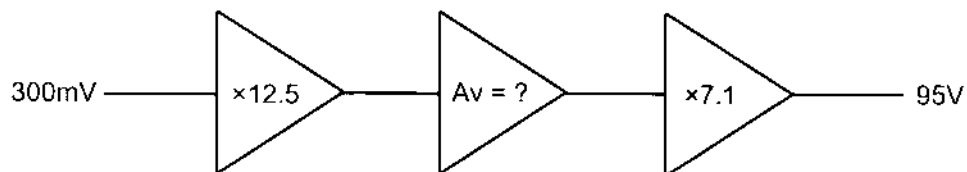

Figure 13
6. What's the gain of the second stage in Figure 13 below?